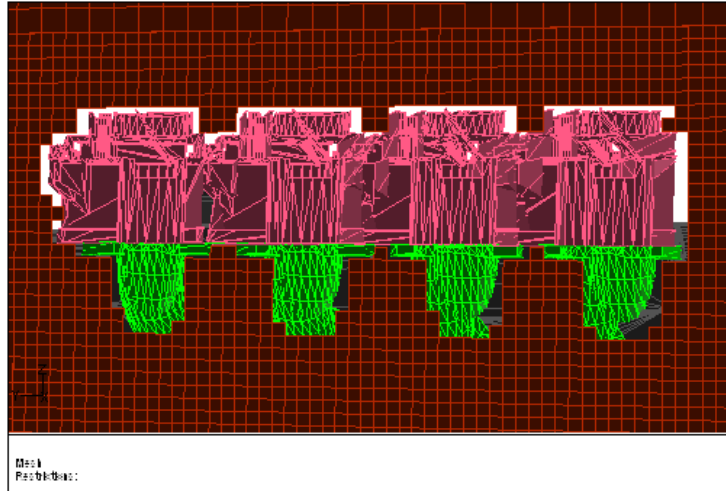

Figure 7.17: Region Updated for the Closed Hole
6. Click Update Regions in the Region tab to update the region based on the newly added face (see Figure 7.17).